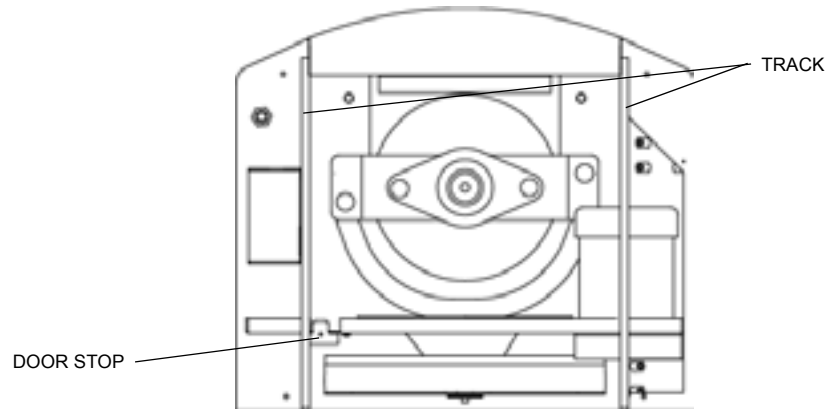

Figure 3. Door Stop
4. Remove the two (2) screws and door stop from the right track. (Figure 3, as viewed from back.)
6. Working at the back of the mixer, gently slide the door out of the two notches in the top of the right and left side door tracks (see Figure 3). Set door aside.
14. Mount the door stop back onto the right track with the two (2) screws.